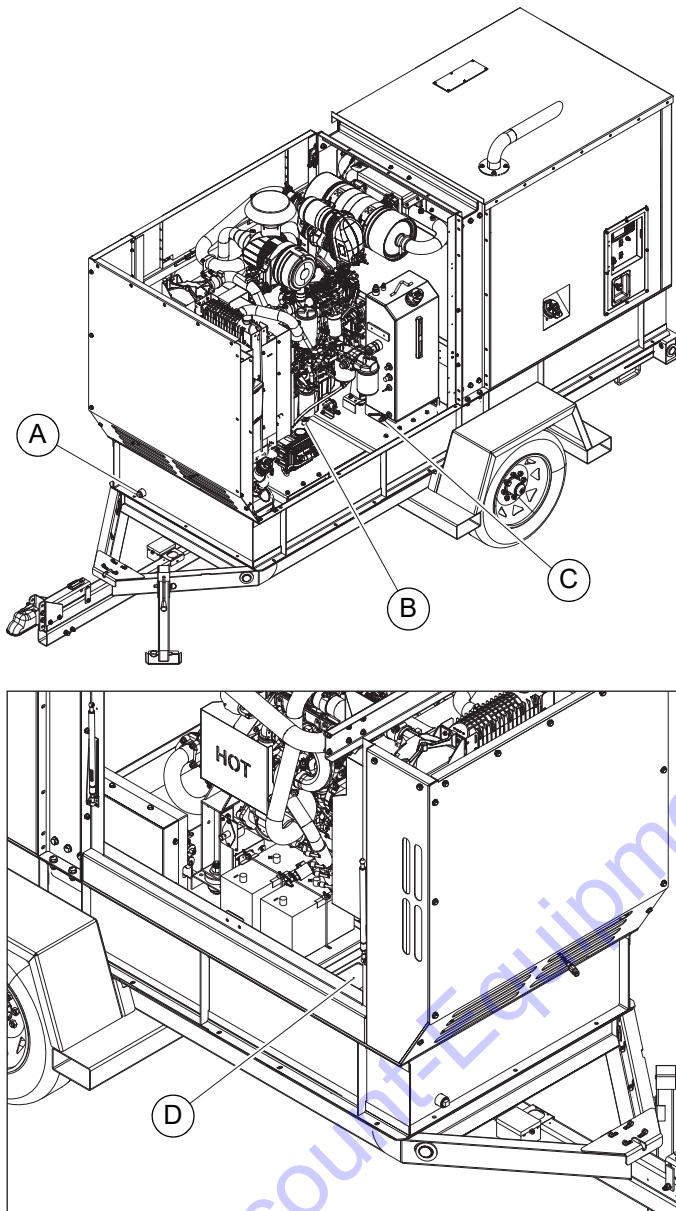

Figure 4-1.
See Figure 4-1. This unit is equipped with a *union fluid drain* (A), an exterior drain port for multiple fluids—engine oil, engine fuel, engine coolant, hydraulic oil, and DEF.